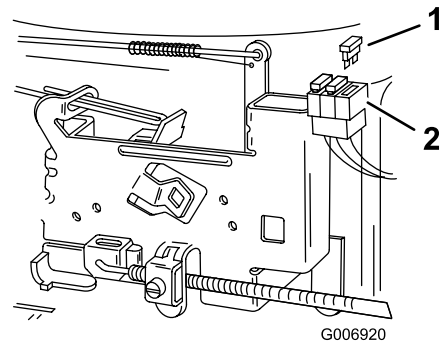

Figure 28
- Pull up on the fuse (Figure 28) to remove it from the socket.